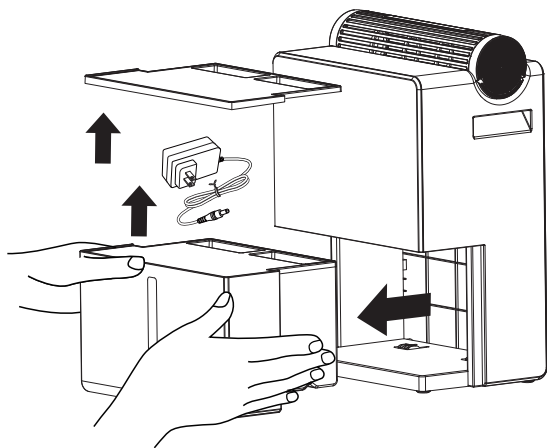

Figure 1
1. Remove the adapter placed in the tank (see Figure 1).